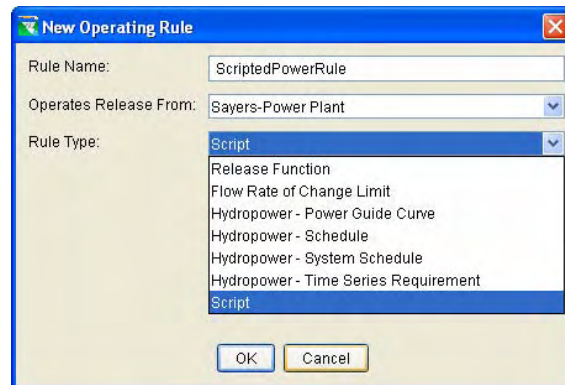

Figure 11.55 New Operating Rule: Script
1. Follow the instructions for creating a new rule as described in Section 11.5.1. Select the appropriate release component (**Operates Release from**) and **Script** for the **Rule Type** in the **New Operating Rule** editor. A Scripted rule type is available for the following reservoir release components: the Reservoir, the Dam, Controlled Outlets, Power Plants, and Diverted Outlets. Figure 11.55 illustrates the creation of a Scripted rule that is assigned to the Power Plant.